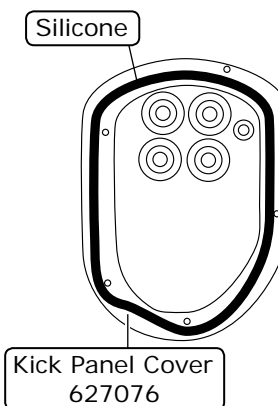

Figure 2
5. Apply a 1/4" bead of silicone around the mating surface of the kick panel cover (See Figure 2, below).
6. Secure the kick panel cover using (5) #8 x 3/4" countersunk washer screws. **NOTE: Let the silicone cure, then remove the (5) #8 x 3/4" countersunk washer screws.**